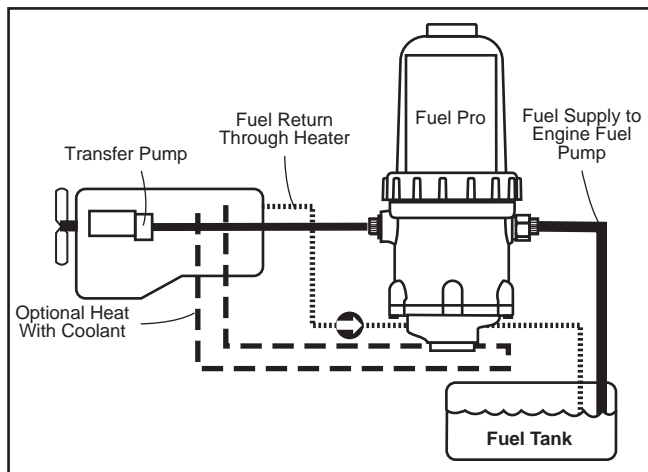

Figure 1 - Fuel Pro Connections
Step 5 - Route the fuel supply line from the fuel tank to the Fuel Pro inlet (Figure 1). Route a fuel line from the Fuel Pro outlet to the fuel pump inlet.
To use engine coolant as the Fuel Pro heating fluid, connect a hose (Braided #6 or #8 hose) from the high pressure side of the engine coolant system to the Fuel Pro Heater Base (see Figure 1). Either heater port will work as an inlet. Route another hose from the Heater Base to a low pressure port in the coolant system. **DO NOT route into the cab heater system.**